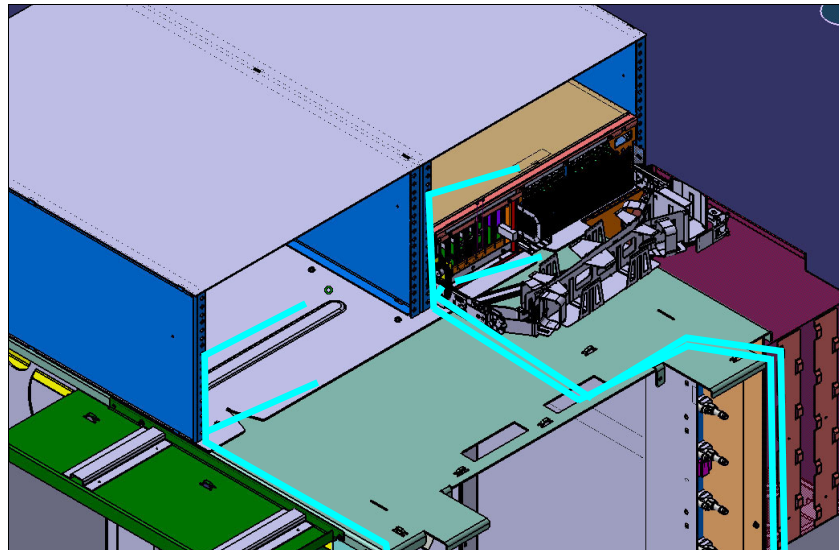

Figure 2-7 I/O enclosure 51 V power cable management
8. Install the 51 V dc power cables and route them without using the cable management arm. See Figure 2-7.